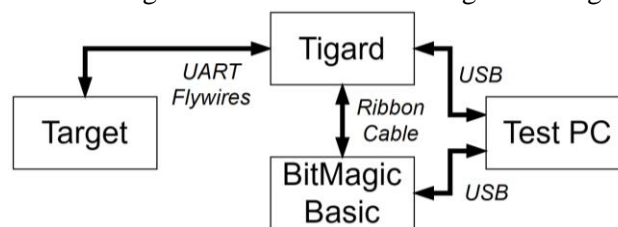

Figure 29: Block diagram for UART Tx using Tigard with BitMagic Basic
3. Power off your target, then connect the Tigard UART cable to the target. See Figure 29 for a block diagram.